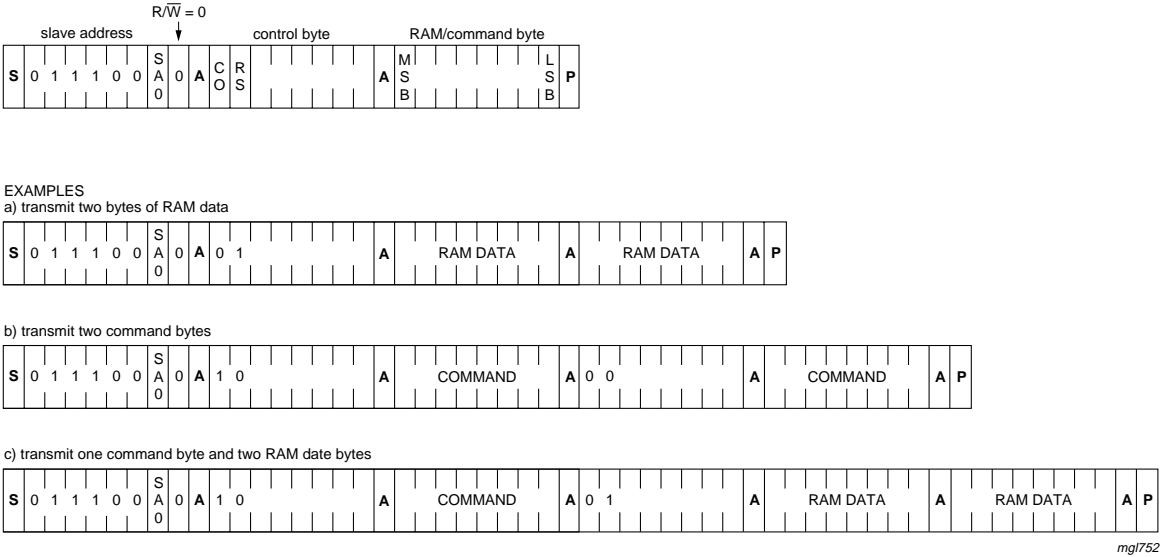

Fig 15. I2C-bus protocol
The I2C-bus protocol is shown in Figure 15. The sequence is initiated with a START condition (S) from the I2C-bus master which is followed by one of the available PCF85134 slave addresses. All PCF85134s with the same SA0 level acknowledge in parallel to the slave address. All PCF85134s with the alternative SA0 level ignore the whole I2C-bus transfer.